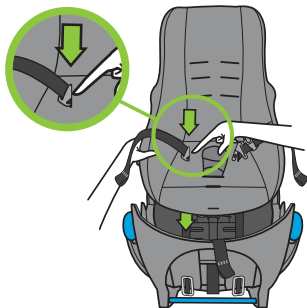

Figure 96
- Position Chest Clip so that end of Chest Clip is aligned with the hip strap opening, and push Chest Clip down through hip strap opening in Carrier Cover and Inner Carrier Shell, as shown in **Figure 96**.